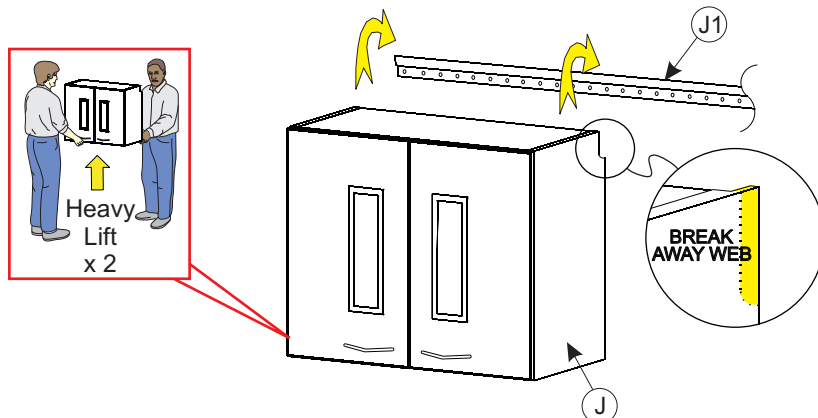

Figure 2A
At the upper corners of each wall cabinet, remove the break away web to enable a multiple wall cabinet installation. DO NOT remove the web for finished ends (see Figure 2A). With (2) people hang the Wall Cabinet (J) onto the Hang Rail (J1) (see Figure 2A) by placing cabinet against the wall above the Hang Rail (J1) then slide down the wall until the hanger bracket snags the Hang Rail (J1). To tighten the cabinet to the Hang Rail use a screwdriver to tighten (see Figure 2B). Tighten the screw on both Hanger Brackets per wall cabinet. Plug the interior lamp into a wall outlet **controlled by customer supplied light switch** through the access hole at the upper rear corner of The Wall Cabinet.